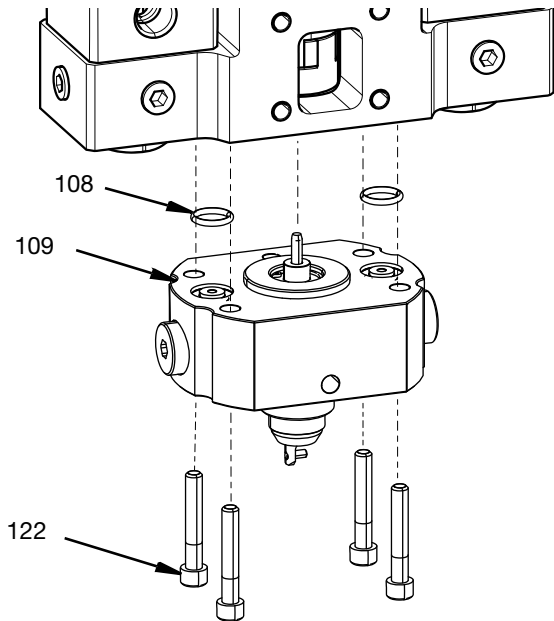
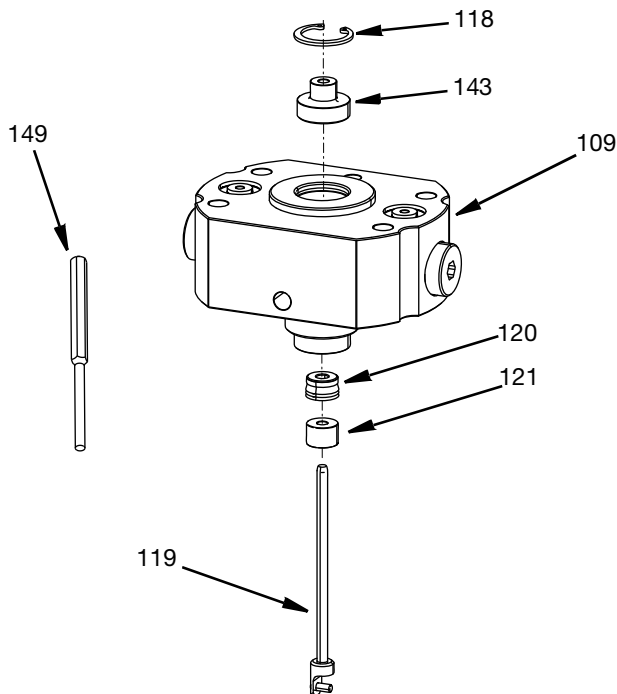

FIG. 50
FIG. 51
7. Using snap ring pliers, remove the retaining ring (118) holding the upper shaft bearing in place (143).
8. Pull the upper shaft bearing (143) out of the check valve housing (109).
9. Remove the lower bearing (120), and the shaft seal (121) out of the check valve nozzle housing using the 1/4 in. punch tool (149). See FIG. 51.
5. Install the shaft assembly (119) onto the check valve housing (109). Use the spacer tool (151) to ensure there is a 0.03 in. (0.76 mm) gap.
6. Replace the two o-rings (108) on the top of the check valve nozzle.
7. Ensure lower portion of lower rotary coupling (127) is fully seated against rotary coupling.
8. Install the four screws through the bottom of the check valve and orifice nozzle housing (109) into the base housing. (101) Torque to 50 in-lbs (13 Nm).
9. Tighten the clamp screw on the rotary coupling (127) to lock it onto the bearing shaft assembly using a 5/64 in. allen wrench.
10. Install the coupling cover (135) with the four screws (136) opposite the customer provided mounting fixture. Torque to 50 in-lbs (13 Nm). See FIG. 50 and FIG. 51 for assembly.